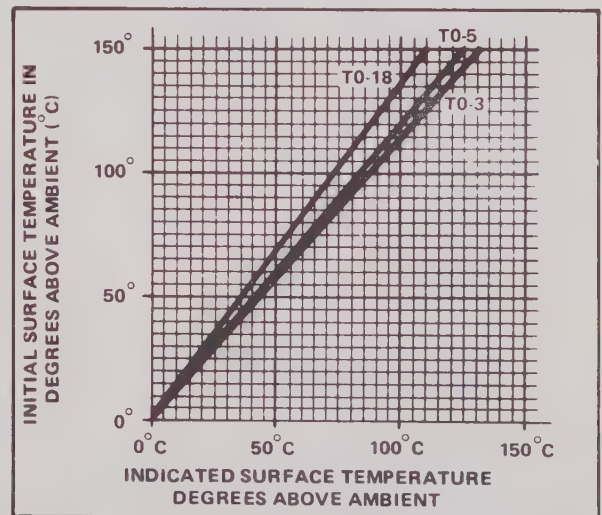

Figure 6-9 INITIAL CASE TEMPERATURE ABOVE AMBIENT vs. METER READING ABOVE AMBIENT
3. To determine the actual surface temperature of a device, both the heat-sinking and steady-state errors must be considered. The correction curve given in Figure 6-9 approximates the effect of both error sources on TO-3, TO-5 and TO-18 transistor cases.